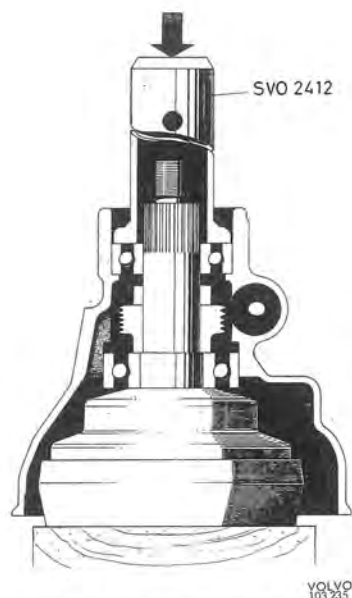

Fig. 4-52. Installing output shaft
3. Place a wooden block under the output as support. Fit the speedometer driving gear and spacer. Press on the rear casing with drift 2412, see Fig. 4-52.